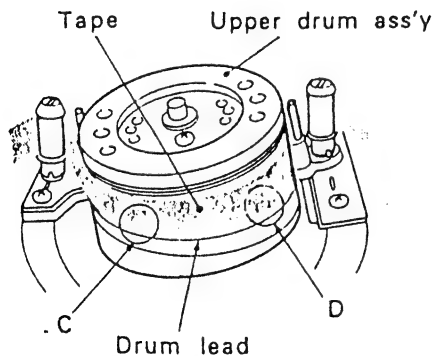

Fig.11 Drum lead check - 2
- Observe the tape as it wraps around the drum during loading and as it separates from the drum during unloading. Confirm absence of damage to the tape at points C and D as shown in Fig.11 and absence of contact noise between head tips and tape edge.